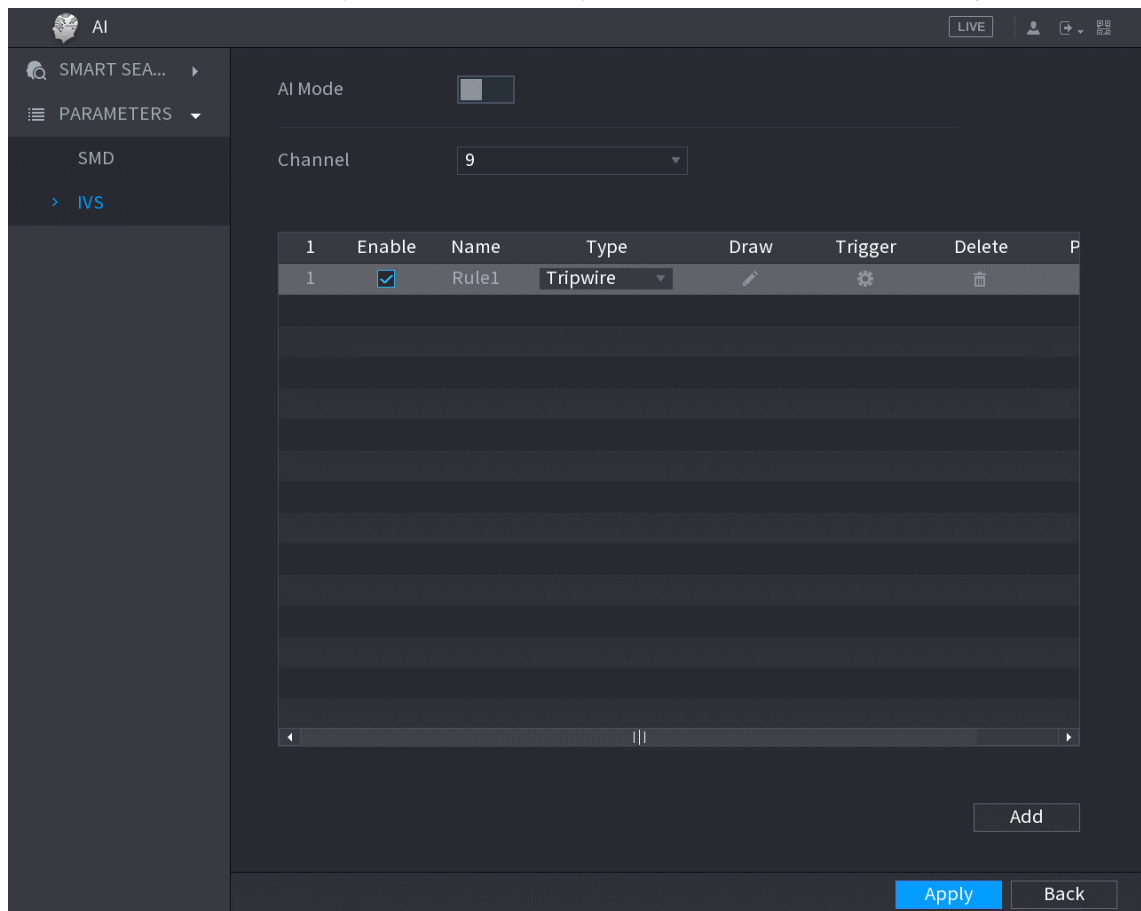

Figure 5-179
Step 1 On the rule line that you added, in the **Type** list, select **Tripwire**. See Figure 5-179.